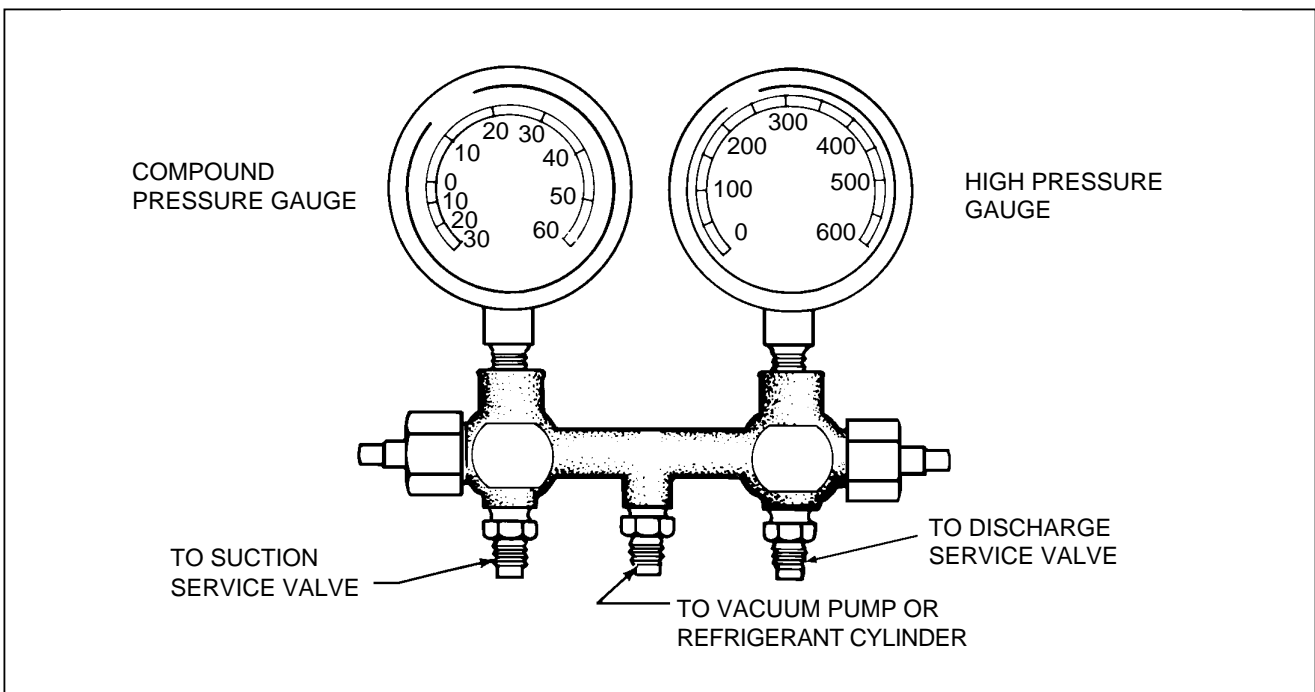

Figure 21-22. Test Gauge and Manifold Set
The proper testing and diagnosis of the air conditioning system require that a manifold gauge set be attached into the system. This set consists of two gauges mounted to a manifold. One gauge is a high pressure gauge used in the discharge side of the system. The other is a low pressure gauge used in the suction side of the system. The manifold is a device having fittings for both gauges and connection hoses with provisions for controlling the flow of refrigerant through the manifold. (See Figures 21-22 and 21-23.)
Cracking the hand valve, in the counterclockwise direction, opens the system to the middle service port of the manifold set. This is desirable only when it is necessary to let refrigerant out or into the system. Refer to Figures 21-22 and 21-23.
3. The high and low manifold hand valves should be in the closed position. (Refer to Figures 21-22 and 21-25.)